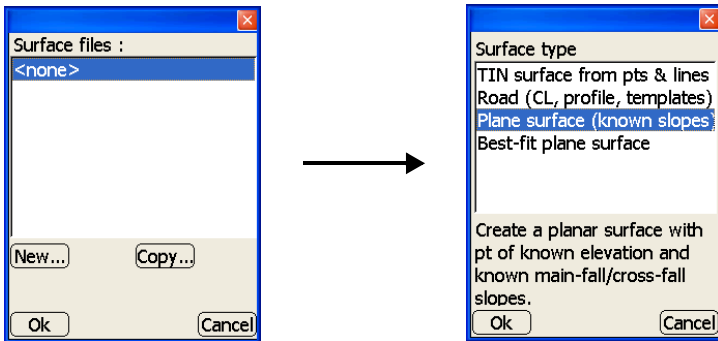

Figure 2-29. Surface Files Dialog Box
1. Press **Data ▶ Surface ▶ [<none> or file name]**. On the *surface files* dialog box, press **New** to create a design surface file, or press **Edit** to change a design surface file (Figure 2-29).
2. On the *Surface type* dialog box, select *Plane surface (known slopes)* and press **Ok** (Figure 2-29).